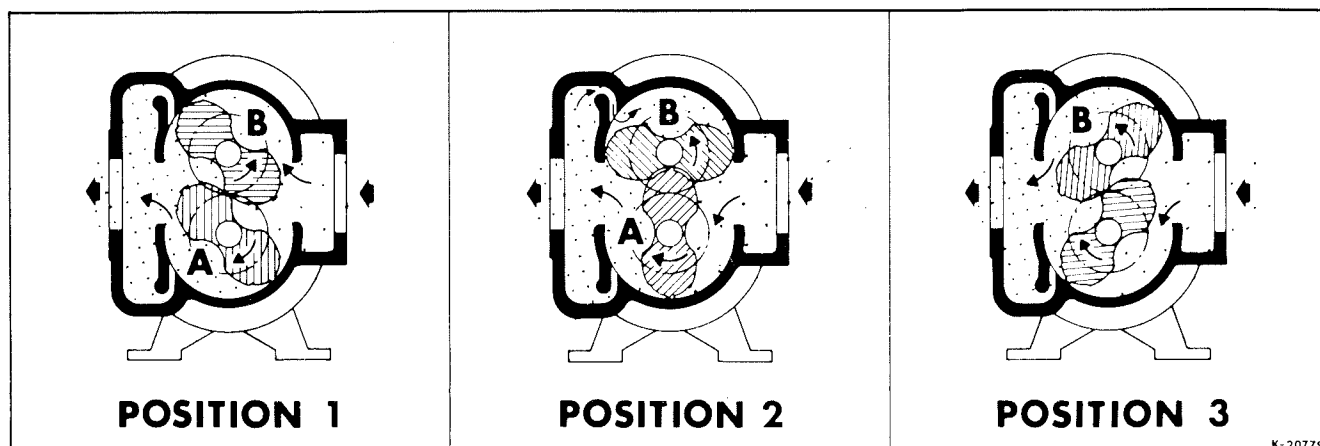

Figure 1 — Flow Through RCS-J Whispair Blower With Standard Rotation
The proprietary design of the Whispair blowers provides a chamber on the discharge side of the cylinder. From this chamber two or more slots open back into the two alternately closed pocket areas of the cylinder, shown as A and B in Figure 1. These slots, at certain impeller positions, allow discharge pressure to bleed into the normally low pressure pockets. They also provide a jet action on the impellers in the direction of rotation. Progressive pressure build-up in the pockets, to a level almost equal to the discharge pressure, reduces backflow rate at the instant of pocket discharge so that pulsing and shock noise are minimized. This permits operation at higher speeds with conservative noise levels, and in most cases enables use of a smaller unit to produce required capacity.
In Figure 1, flow is right to left from blower inlet to discharge. The lower impeller is part of the driven shaft, and rotates *clockwise*. As shown in **Position 1**, it is delivering a measured volume (A) into the discharge pressure chamber. At the same time, space (B) between the upper impeller and cylinder wall is filling with another and equal volume at atmospheric or inlet pressure. It is about to be sealed off by the *counterclockwise* rotation of this impeller, for delivery to the discharge.